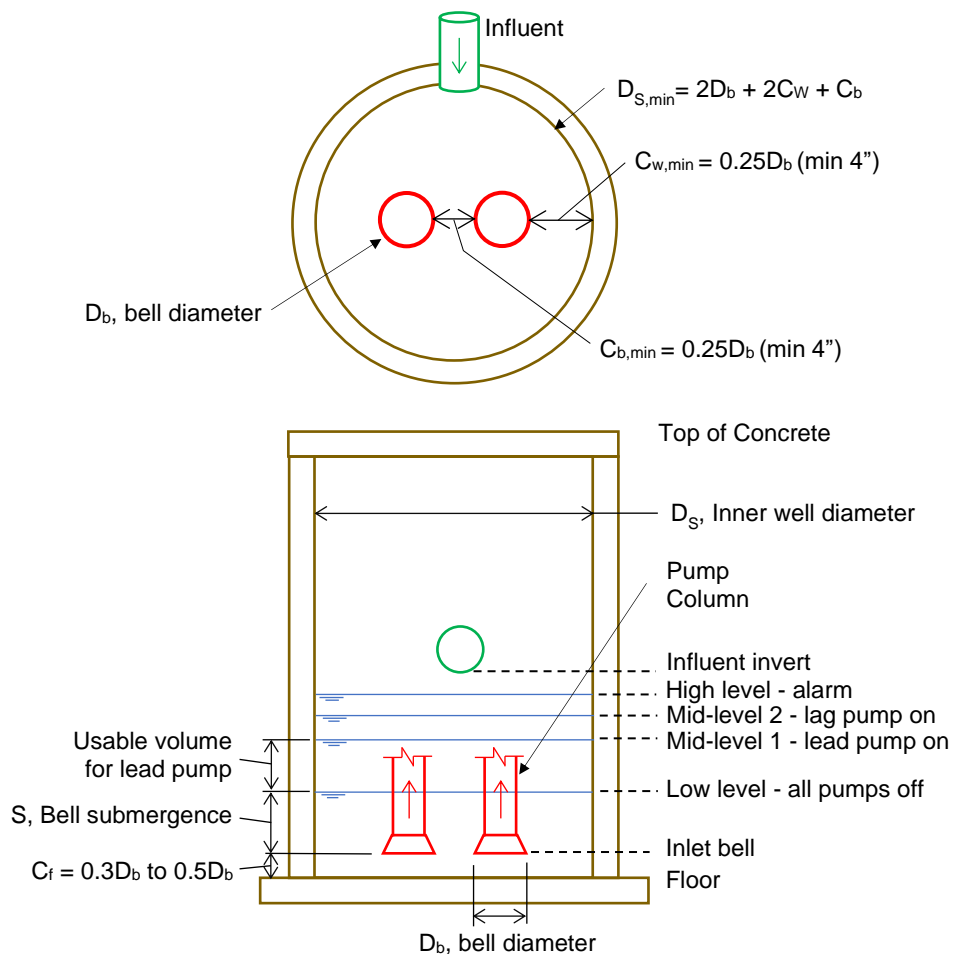

Figure 12: Circular wet well arrangement with two (duplex) vertical pumps.
- For most vertical pumps (VS1 to VS7), the inlet is the opening (or bell) at the bottom of the pump. See Figures 12, 13 and 14 for common vertical pump arrangements.